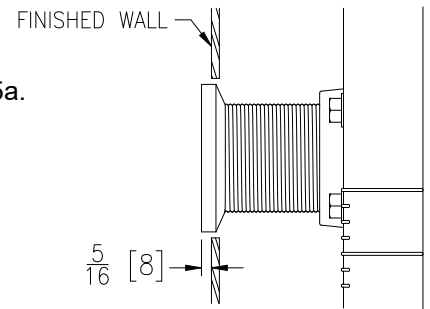

Fig. 15a
- a. Standard, -CS, and -CC Couplings – Remove coupling protector. Ensure coupling extends $\frac{5}{16}$ " [8mm] from finished wall. See Fig. 15a.